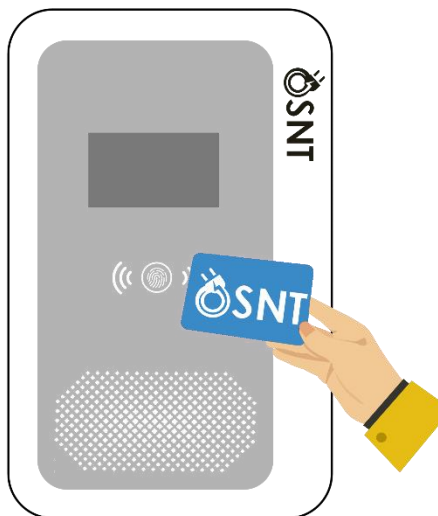

Fig.15
- 4) Swipe the authorized RFID card to stop, as shown in Fig.15